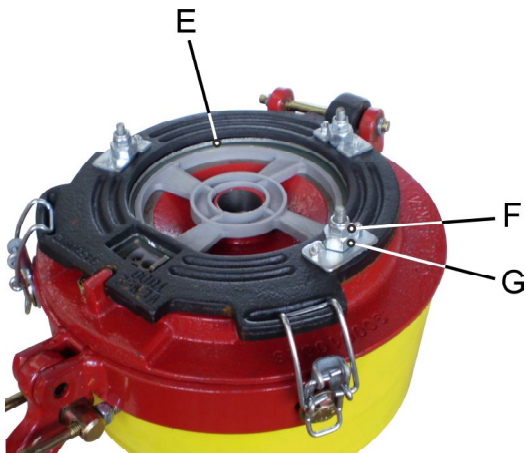

fig. 05
Checking or replacing meter plates, do the adjusting ring correcting the clearance (E) (fig. 05), through the release of the nut (F), and adjustment of possible backlash of meter plate-ring kit with adjusting nut (G). **Pay particular attention to the meter plate rotate freely, without clearance.**